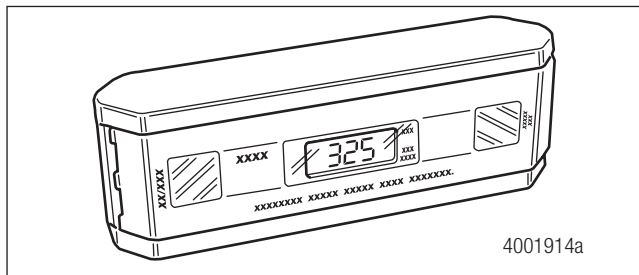
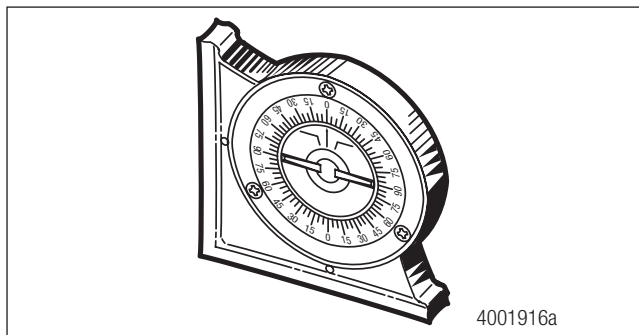

Figure 14.1
Figure 14.2
- An inclinometer or a spirit level protractor to measure driveline angles. Figure 14.1 and Figure 14.2.